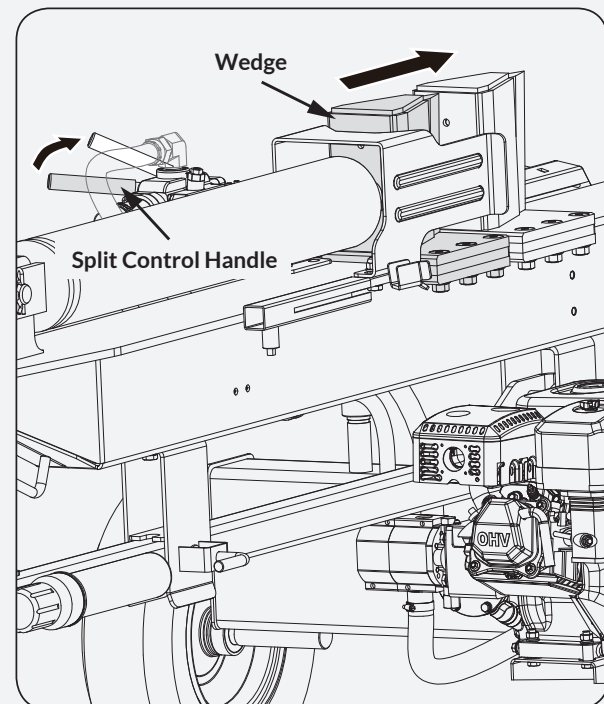

Figure 12b
2. Start the engine and operate the control handle to make the wedge move forward 8". (See **Figure 12b**)